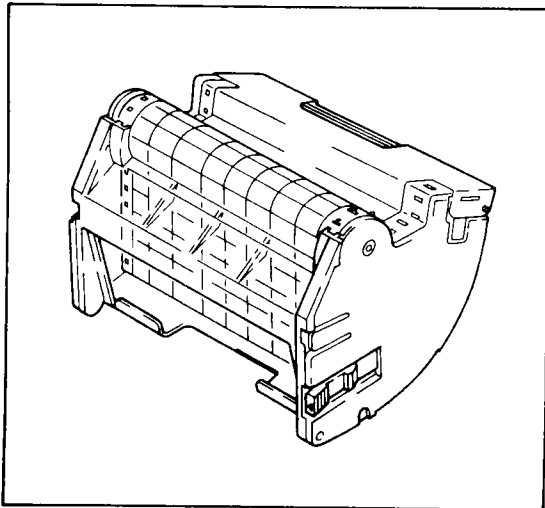

Figure 5-6.
- (7) Place the rear chart guide plate back into position. Holding both right and left ends of the chart in your hands, use the middle finger of your right (left) hand, to press the rear chart guide plate down and towards you and load the chart.
- (8) Place the front transparent chart guide back into position. (See Figure 5-6.)